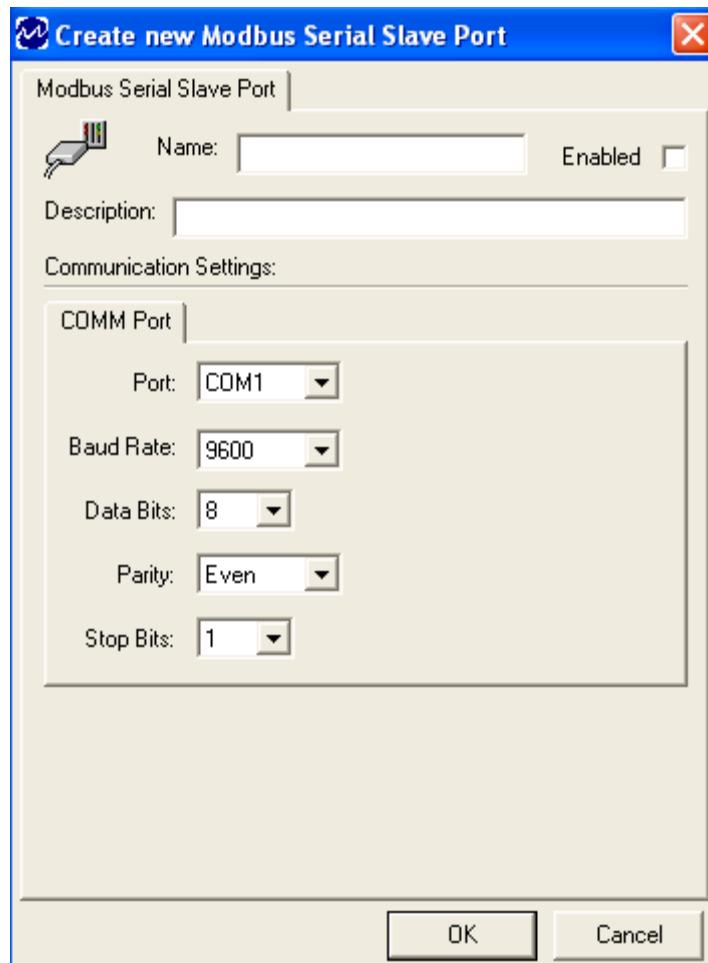

Figure 7 - Create New Modbus Serial Slave Port Window
The **Create New** window (Figure 7) displays the settings available for a connection to a **Modbus Serial Slave Port**.
5. The **Create New** window appears (Figure 7).